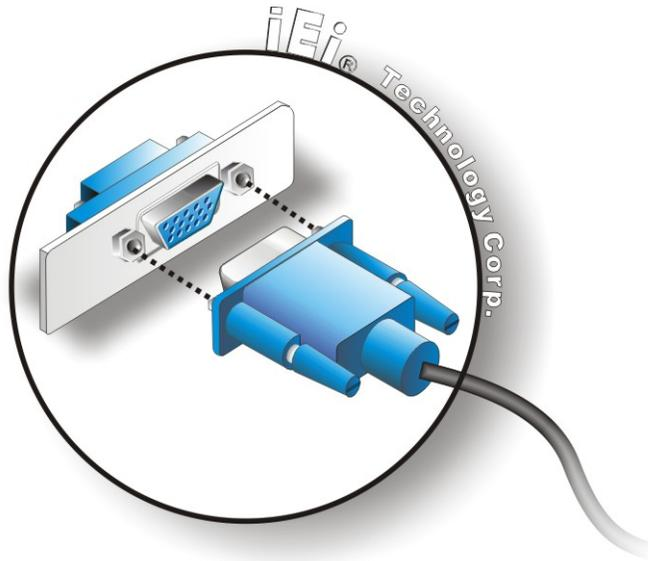

Figure 4-15: VGA Connector
Step 3: Insert the VGA connector Once the connectors are properly aligned with the insert the male connector from the VGA screen into the female connector on the KINO-PVN-D5251/D4251. See Figure 4-15.